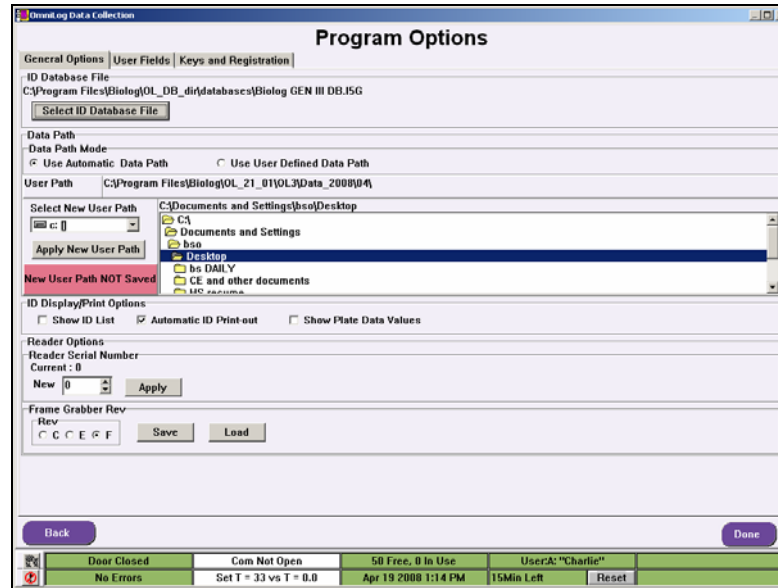

Figure 11 General Options on program Options Window
2. A windows **Open** dialog box will appear. Navigate to the C:\Program Files\Biolog\OL_DB_dir\databases folder and select the database file ending with the extension .I5G (default installation location). See Figure 11.